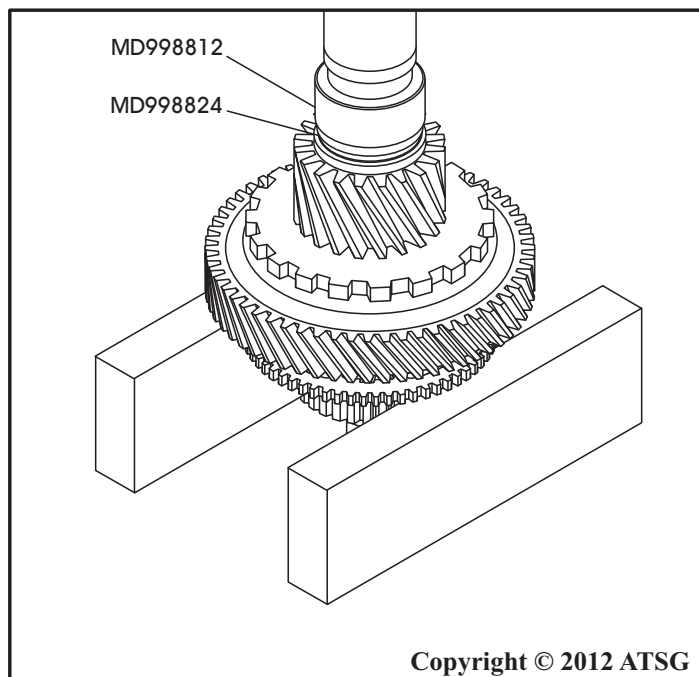

Figure 179
16. Press the output pinion gear into position, as shown in Figure 179.